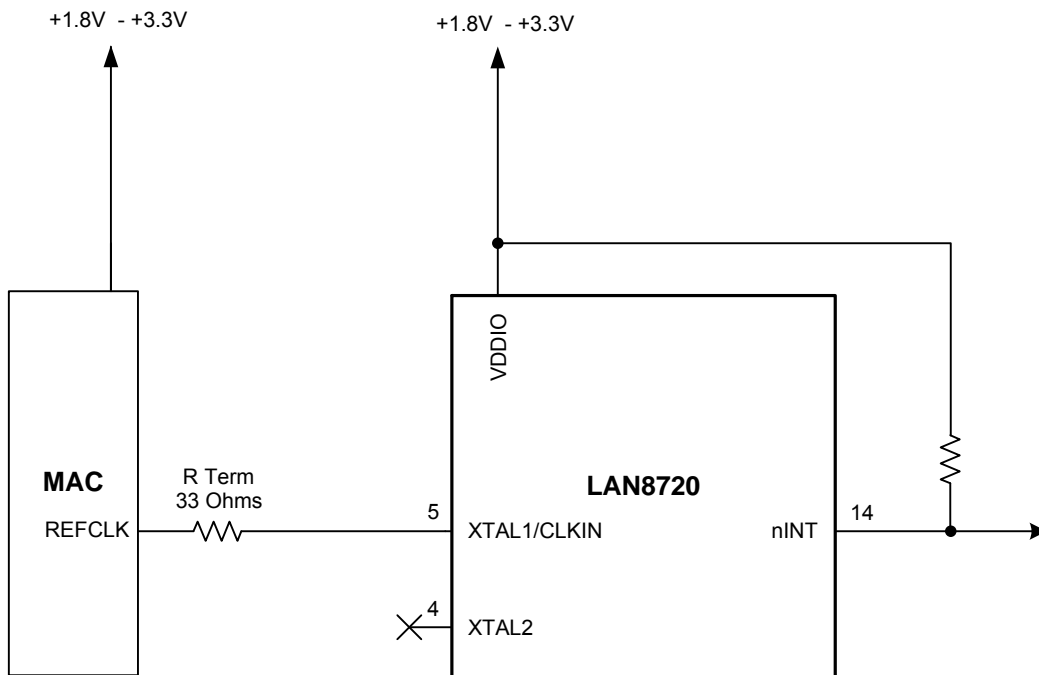

Figure 6 – LAN8720 MAC REFCLK Connections
3. When the LED2/nINTSEL pin (pin 2) is used in conjunction with a LED, refer to Figure 6 below for details.